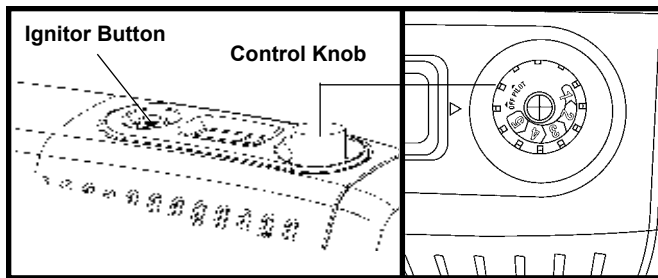

Figure 19.
3. Push in gas control knob and slightly turn clockwise to the OFF position (see figure 19).
4. Wait five (5) minutes. Then smell for gas including near the floor. If you smell gas, STOP! Follow "B" in the safety information above. If you do not smell gas, go to the next step.
5. Push in and turn control knob counterclockwise to PILOT. Press in control knob for five (5) seconds.